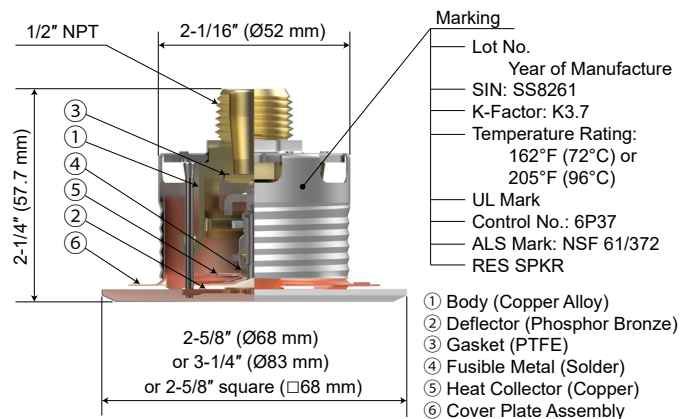

Figure 1: Model RC-RES K = 3.7
• Physical Characteristics: Ref. Figures 1 and 1.1